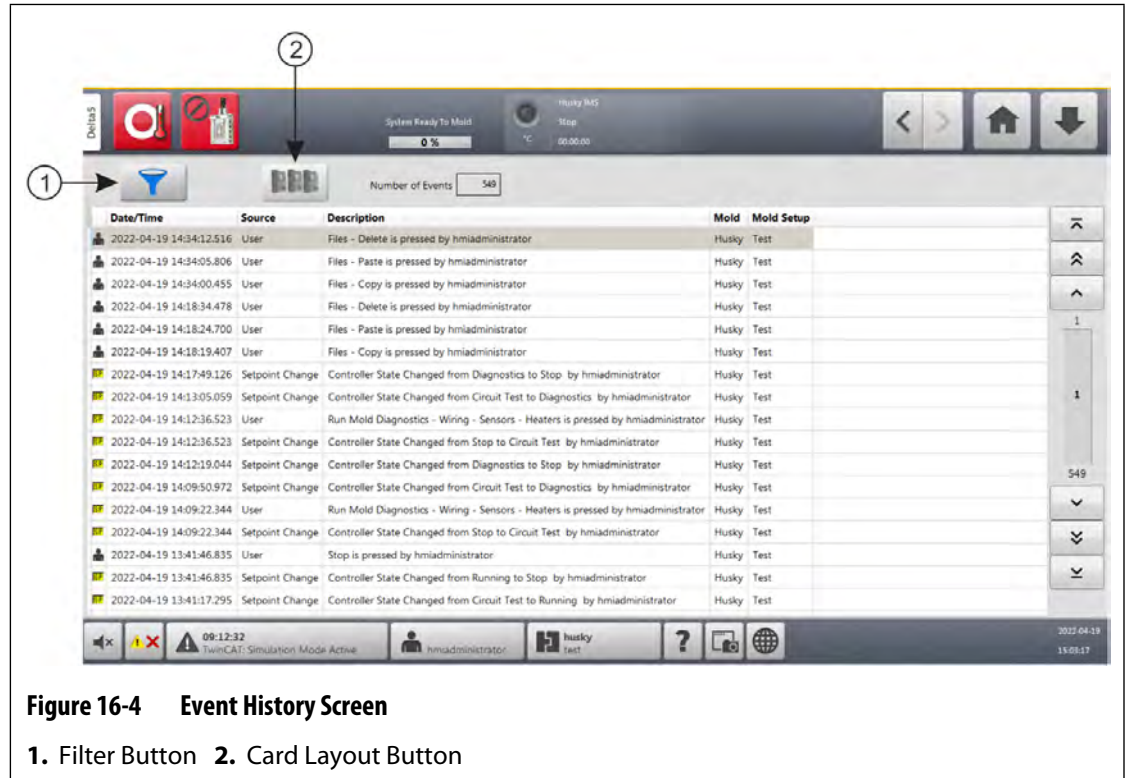

Figure 16-4 Event History Screen
1. On the Event History screen, touch the **Filter** button. Refer to Figure 16-4.